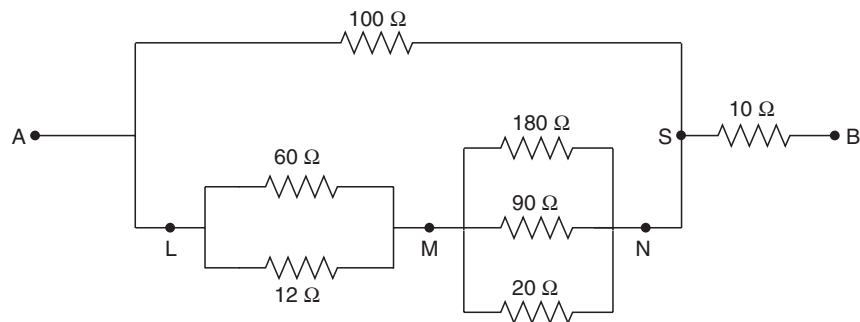

Fig. 56
11. Find the resistance between the points *A* and *B* in the series-parallel network shown in Fig. 56.